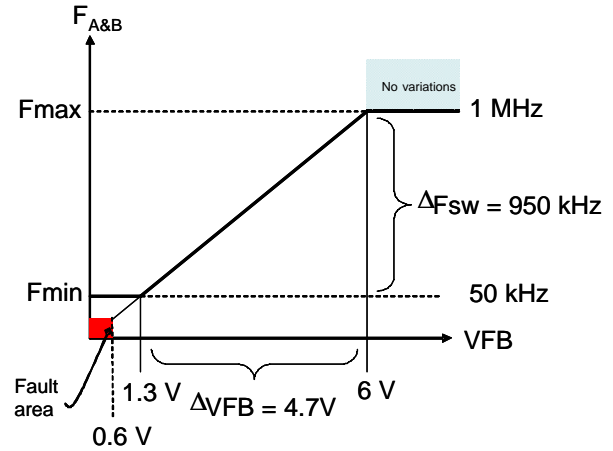

**Figure 34.** The OPAMP arrangement limits the VCO internal modulation signal between 0 and 5.0 V.
The designer needs to program the maximum switching frequency and the minimum switching frequency. In LLC configurations, for circuits working above the resonant frequency, a high precision is required on the minimum frequency, hence the  $\pm 3\%$  specification. This minimum switching frequency is actually reached when no feedback closes the loop. It can happen during the startup sequence, a strong output transient loading or in a short-circuit condition. By installing a resistor from pin 1 to AGND, the minimum frequency is set. Using the same philosophy, wiring a resistor from pin 2 to AGND will set the maximum frequency excursion. To improve the circuit protection features, we have purposely created a dead zone, where the feedback loop has no action. This is typically below 1.3 V. Figure 34 details the arrangement where the *internal* voltage (that drives the VCO) varies between 0 and 3.6 V. However, to create this swing, the feedback pin (to which the optocoupler emitter connects), will need to swing typically between 1.3 V and 6.0 V.
As shown in Figure 34, the *internal* dynamics of the VCO control voltage will be constrained between 0 V and 3.6 V, whereas the feedback loop will drive pin 5 (FB) between 1.3 V and 6.0 V. If we take the external excursion numbers, 1.3 V = 50 kHz, 6.0 V = 1.0 MHz, then the VCO slope will then be  $\frac{1 \text{ Meg} - 50 \text{ k}}{4.7} = 202 \text{ kHz/V}$ .